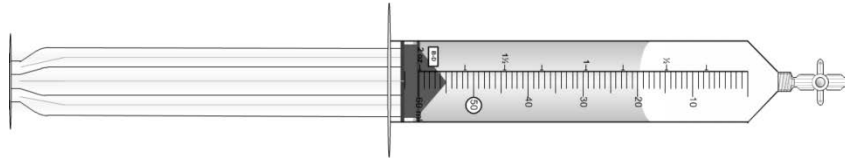

Figure 10. A syringe with 40 mL of water and 20 mL of air
1. Away from stream, where there will be no contamination in the air from the injection, such as upstream and upwind, open stopcock and draw in 20 mL of air so the syringe is filled to the 60 mL mark with air and water (Figure 10). Close stopcock. VERY IMPORTANT: To be consistent, be sure to have the bottom of the meniscus at the 20 mL mark (Figure 10).